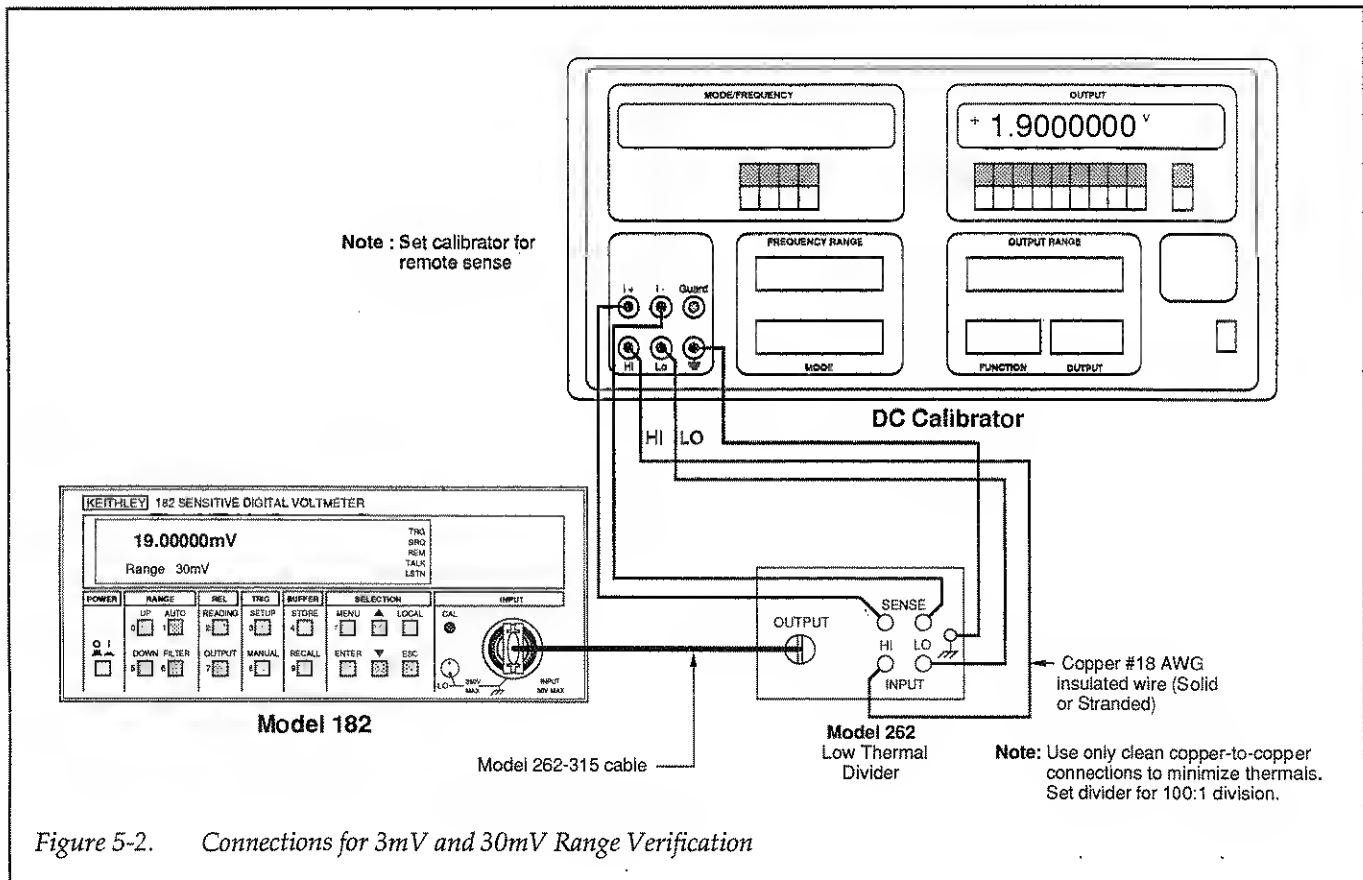

Figure 5-2. Connections for 3mV and 30mV Range Verification
8. Turn off the calibrator output, then disconnect the DC calibrator from the Model 182. Connect the DC calibrator, Model 262 Low Thermal Divider, and the Model 182 together as shown in Figure 5-2.